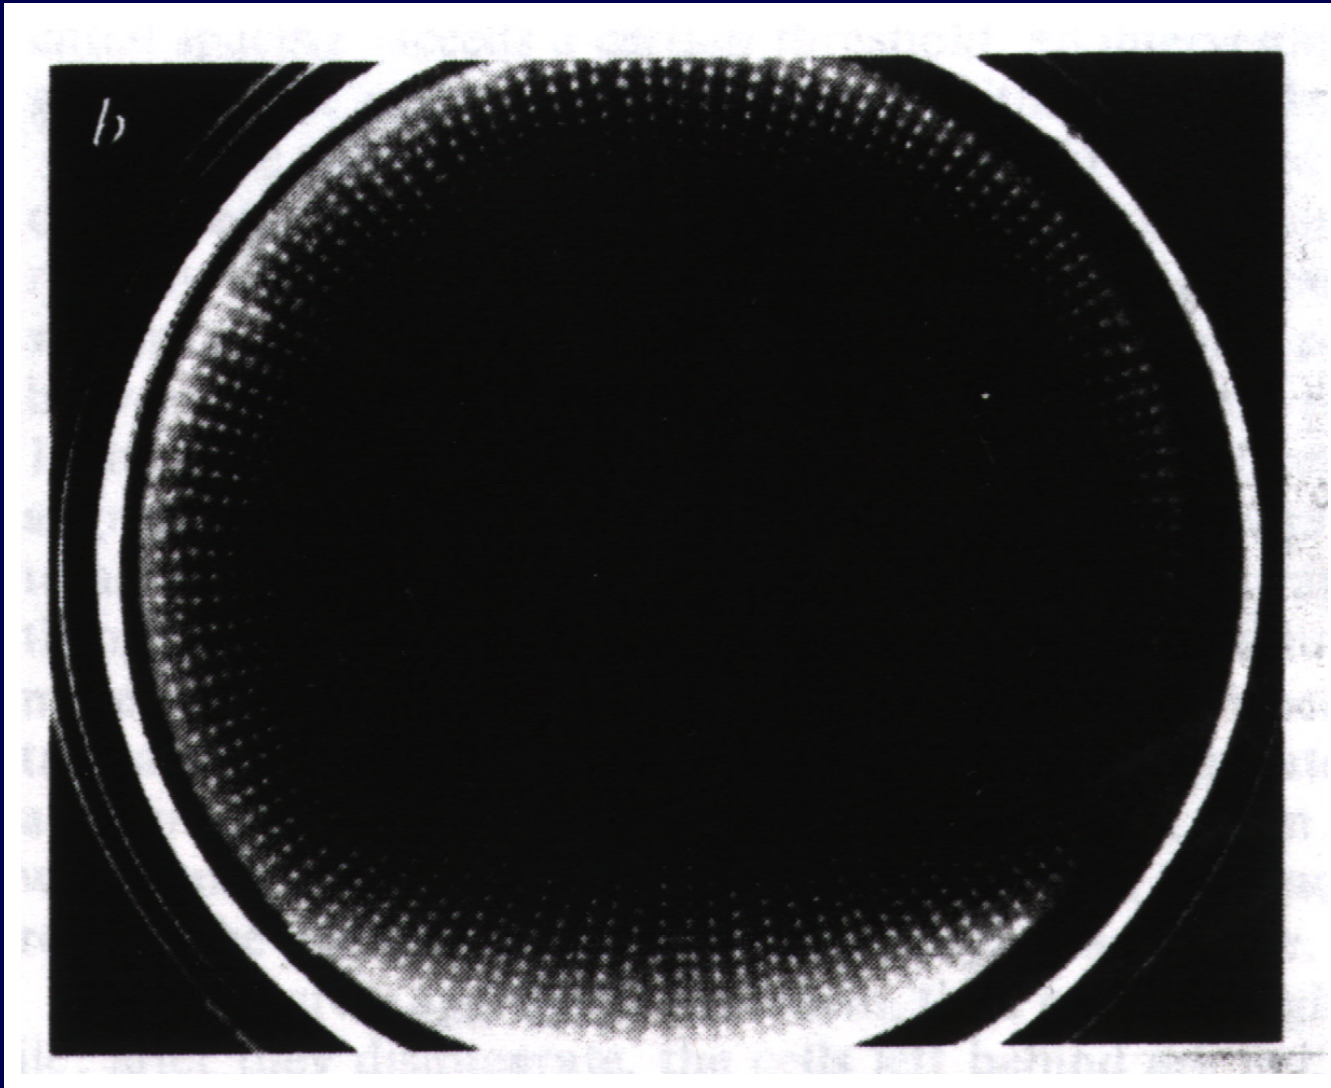
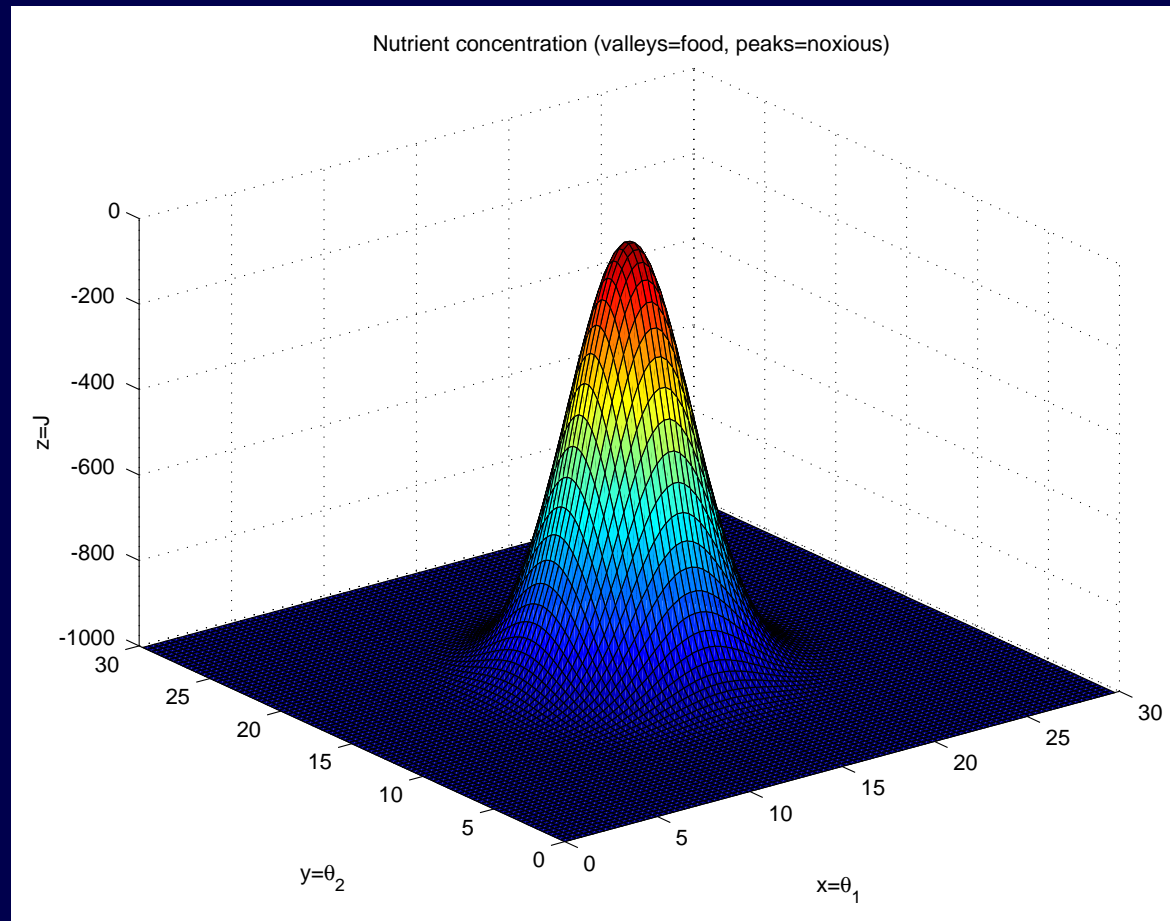

Figure 11: Swarm pattern of *E. coli* (from [3]).
Figure 16: A nutrient surface for testing swarming.
- Emulate Figure 11 by considering optimization over Figure 16.